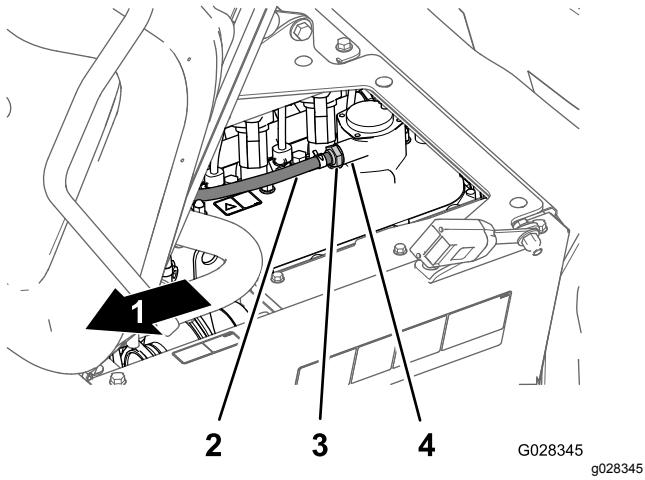

Figure 78
2. Remove the PCV valve from the fitting of the valve cover (Figure 78).
**Note:** If the internal restrictor of the valve rattles, the PCV valve is serviceable; if the internal restrictor is not free to rattle when shaken, replace the PCV valve (Figure 78).
4. Insert the PCV valve until it is fully seated in the seal for the valve-cover fitting (Figure 78).